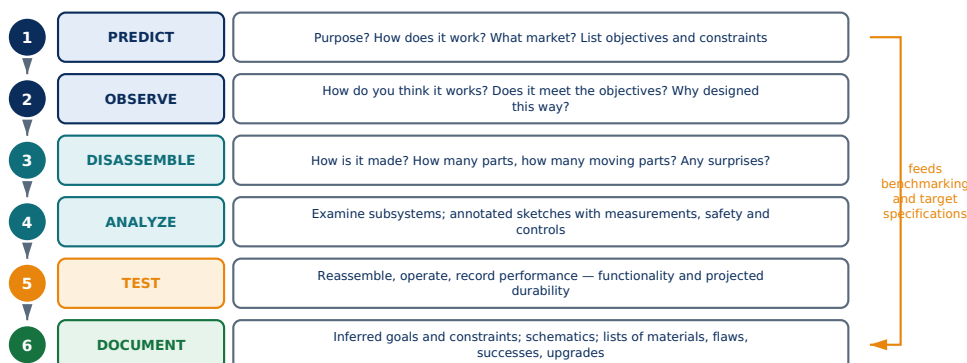

Fig 3.10 — Reverse engineering and redesign: six steps
- Types: **internal** (between units of the same firm), **competitive/product** (direct competitors), **functional** (same function in a different industry), **generic** (best-in-class processes anywhere). Draw Fig 3.10.